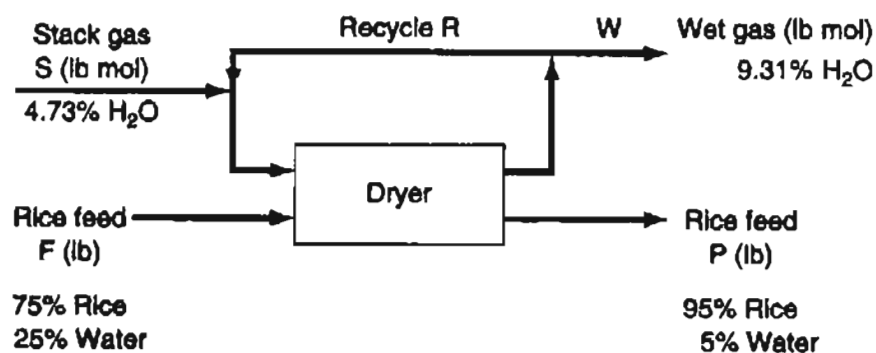

Figure P12.11
- ✓ **12.11 To save energy, stack gas from a furnace is used to dry rice. The flow sheet and known data are shown in Figure P12.11. What is the amount of recycle gas (in lb mol) per 100 lb of P if the concentration of water in the gas stream entering the dryer is 5.20%?